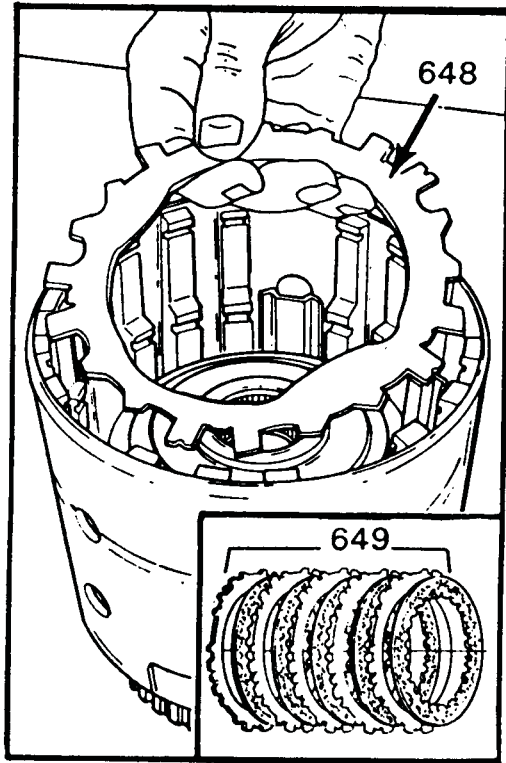

Figure 102
3. Install the forward clutch wave plate on top of the apply plate with teeth aligned to the apply plate (Fig. 102).